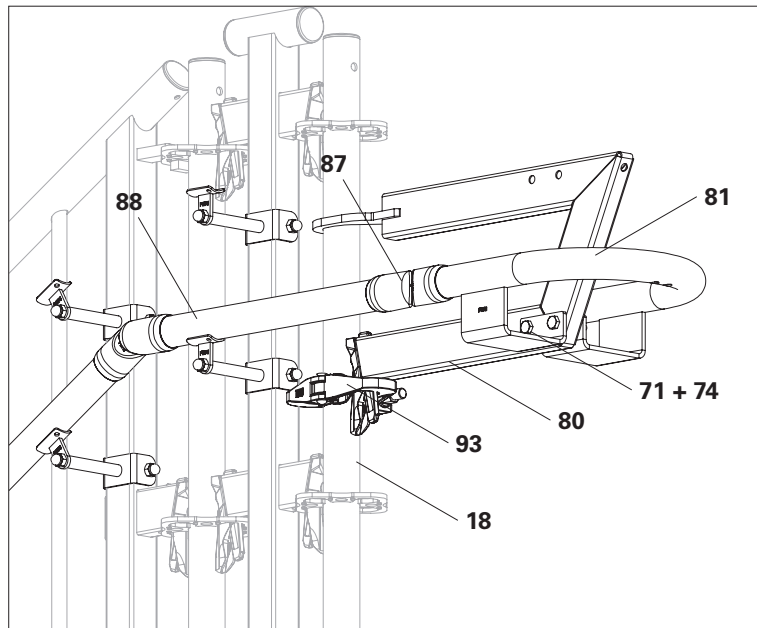
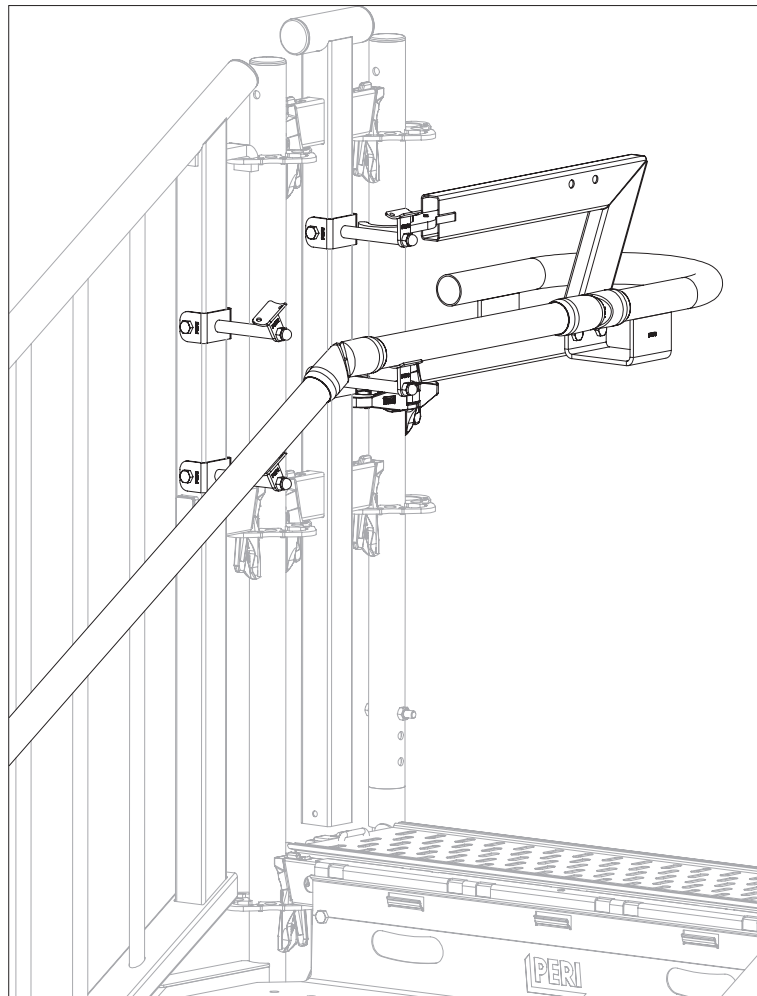

Fig. D3.04
Fig. D3.04a
1. Fit Handrail Start PESS (80) with Clamping Rosette UEV 180°(93) to Top Standard UVH-2 100 (18).
2. Align the uppermost Handrail Tube PEHT (88) with Handrail Joint PEHJ (87) and attach to Handrail Tube Start PEHS (81).
3. Bolt the Handrail Tube Start PEHS (81) tightly to the Handrail Support Start PESS (80) using 2 x M10X55-8.8 Bolts (71) and nuts (74). (Fig. D3.04 + Fig. D3.04a)